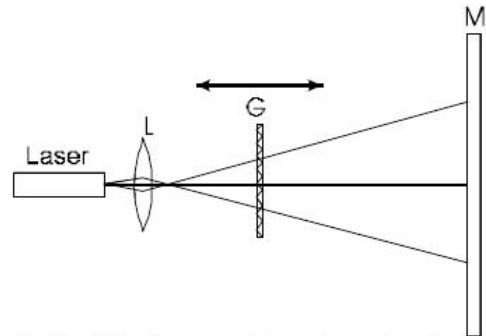

Fig. 6 Diffraction set-up [G = diffraction medium (square aperture, circle aperture, grating,), M = ground screen, L = lens]
- Position the laser and the ground screen opposite and as far as possible from each other on the metal board (see Fig. 6).